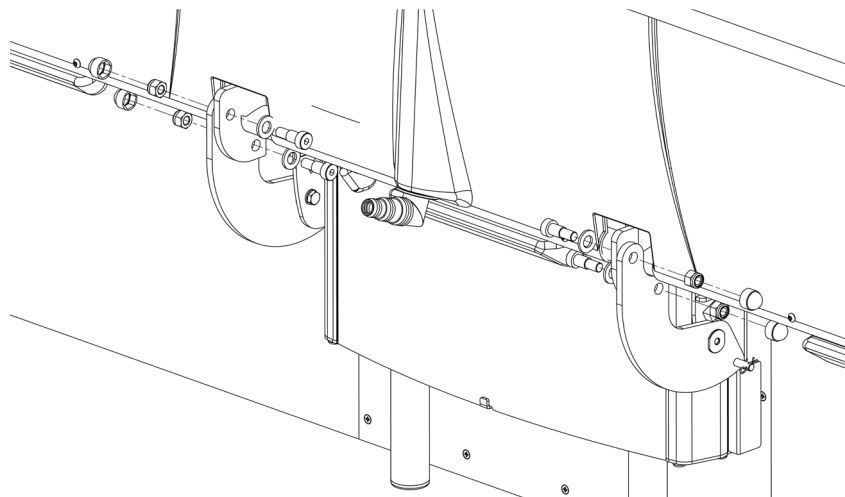

Fig 12.6d
- Once in position secure the provided M10 x 16 mm bolts and M10 nuts provided. Finish by covering the nut with the caps provided as shown in Fig 12.6d.